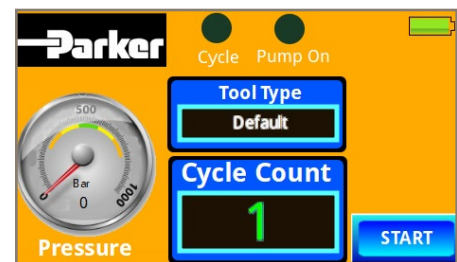

Figure 58
11. You will be navigated to the pump's main screen, containing a digital pressure gauge, pump option, cycle count, battery life, and a START/STOP button (Figure 58).